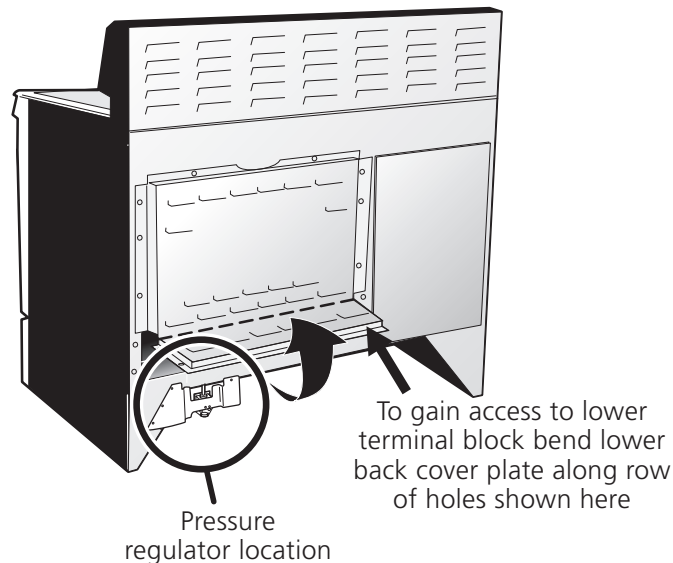

Figure 2
1. Remove the 3 screws at the lower end of the rear wire cover, then bend the lower end of the rear wire cover (access cover) upward to expose range terminal connection block (see Figure 2).
1. Remove the 3 screws at the lower end of the rear wire cover, then raise the lower end of the rear wire cover (access cover) upward to expose range terminal connection block (see figure 2).
When shipped from the factory, this unit is designed to operate on 4" water column (1.0 kPa) Natural gas manifold pressure. A convertible pressure regulator (see figure 2) is connected to the range manifold and **MUST** be connected in series with the gas supply line. To access the regulator, remove the drawer.